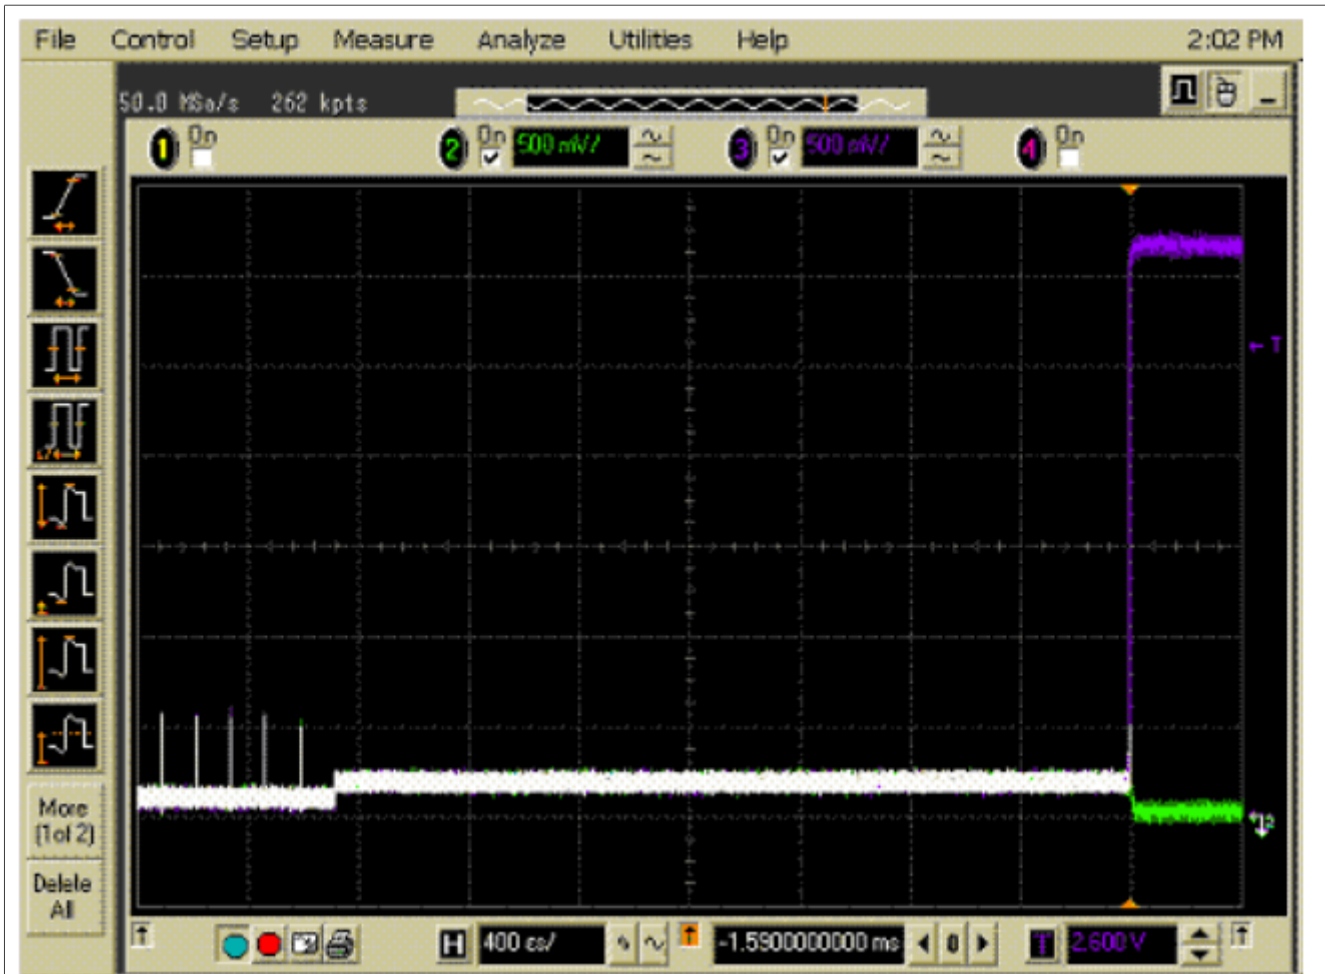

Figure 78. EL\_39 Host Suspend waveform
4. After 15 seconds the host port enters Suspend state, as shown in Figure 78 below. Click **OK** to close the Test Instruction dialog.